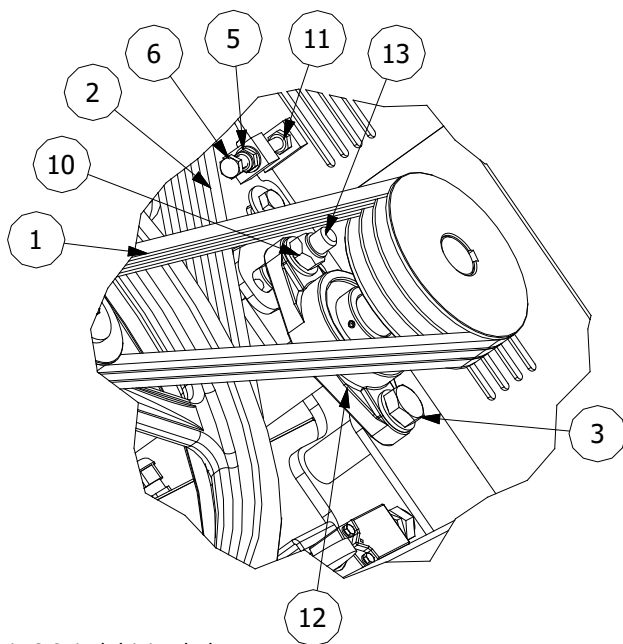
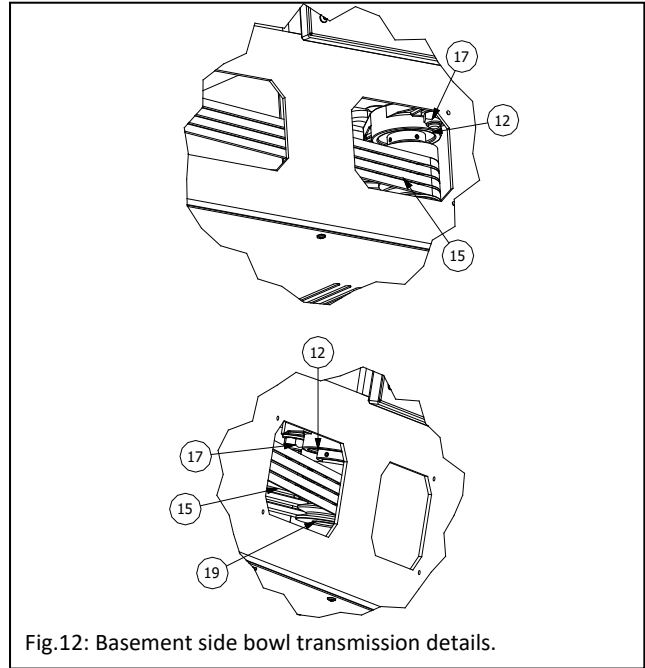

Fig.8:Spiral driving belts.
Fig.12: Basement side bowl transmission details.
- Verify that the lock nuts, Pos.11 fig.8, of the Pos.6 screws are tightened.
- loosen the 3 fig.8 screw and the self-locking nut, Pos.10.
- loosen the nuts Pos. 10, fig.8,
- unlock the nut Pos. 61 fig.8,
The grease nipple is indicated with "N.I." in the Fig. 15. The holders are two, one of them is in the head compartment Pos.12 fig.8 and the other one is in the basement compartment fig.12. They can be reached,